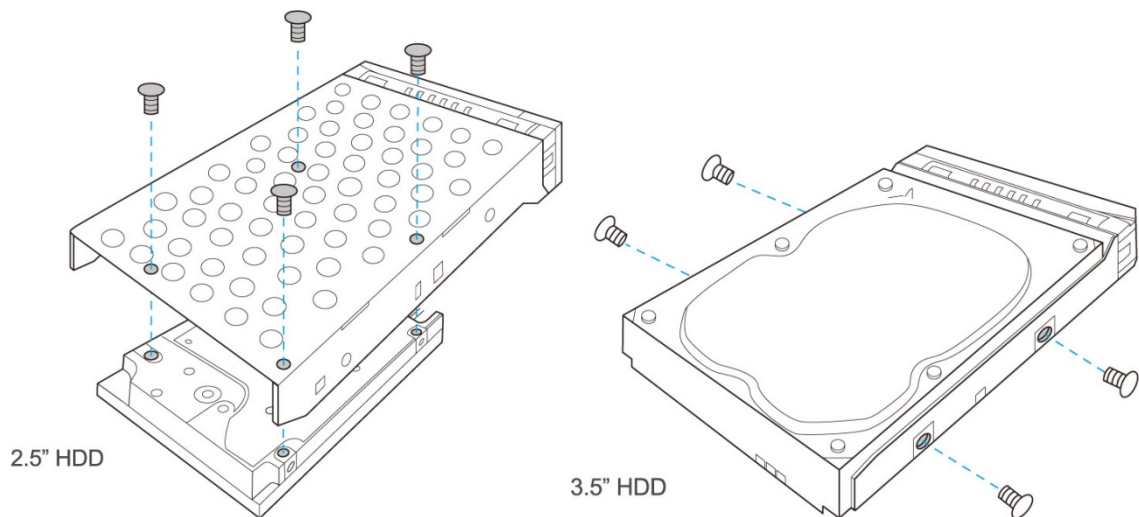

Figure 3-4: HDD Tray Installation
Step 3: Attach the drive to the tray and secure the four screws in the bottom/sides of the drive tray (**Figure 3-4**).